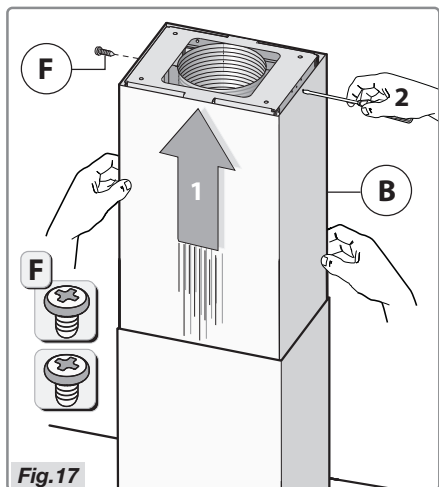

Fig. 17
- Connect the shaft **B** to the ceiling plate using the two screws **F** (Fig. 17).